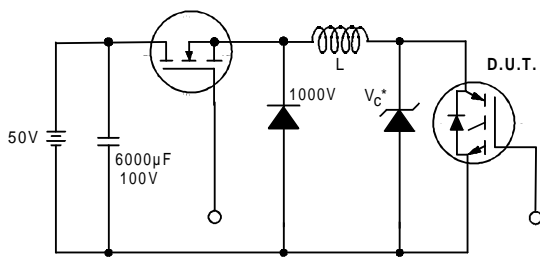

Figure 19. Clamped Inductive Load Test Circuit
- ②  $V_{CC}=80\%(V_{CES})$ ,  $V_{GE}=20V$ ,  $L=10\mu H$ ,  $R_G=50\Omega$  (figure 19)
- ③ Pulse width  $\leq 80\mu s$ ; duty factor  $\leq 0.1\%$ .
- ④ Pulse width  $5.0\mu s$ , single shot.